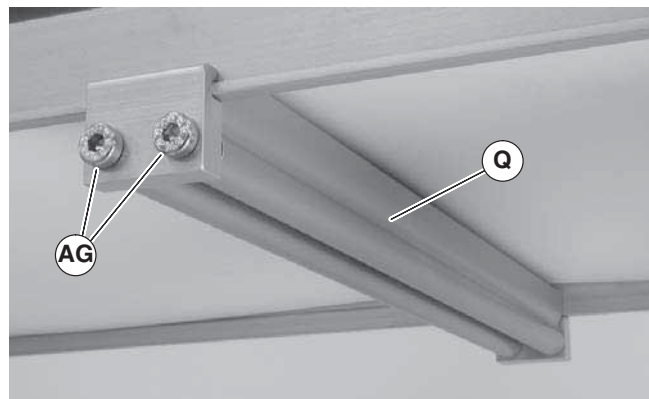

Figure 14
3. Install roller assembly as shown (Figure 14, item Q). Tighten screws (AG) to 60 in-lb (7 Nm).